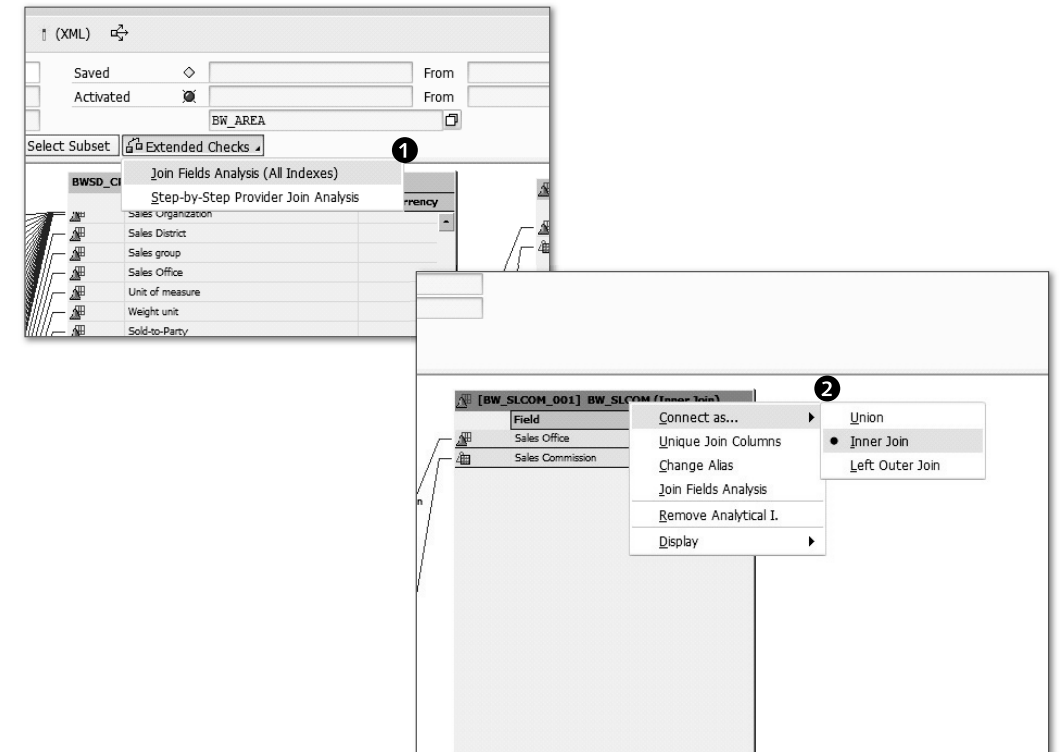

Figure 6.73 Defining a CompositeProvider: Part 3
The EXTENDED CHECKS button (1 of Figure 6.73) provides you options to analyze the defined joins and debug the definition of the CompositeProvider. Also, the context menu from the header of the inserted object gives you options to toggle between union and other join settings (2).